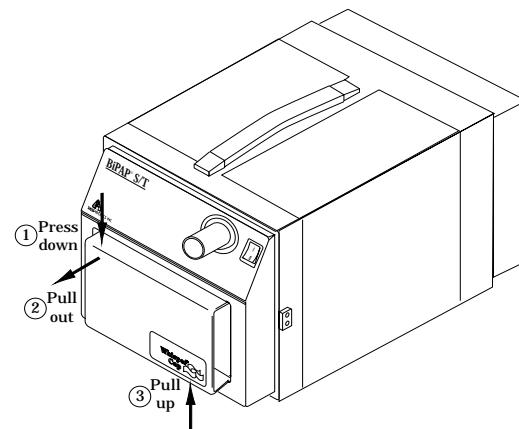
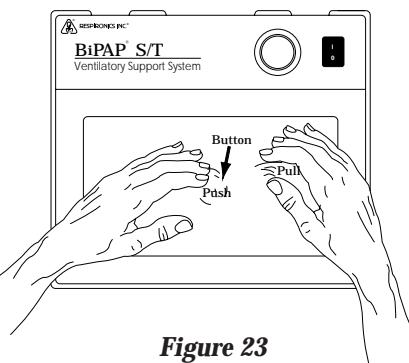

Figure 22
Figure 23
1. See Figure 22. Press down (1) and pull out (2) on the top of the Whisper Cap®. You need to press down only about $1/8$ " to allow the top lip of the Whisper Cap to clear the filter retainer.
2. Pull up (3) on the bottom of the Whisper Cap until the bottom lip clears the filter retainer.
3. Turn OFF (0) the unit and unplug the electrical cord from the wall outlet and from the back of the unit.
4. See Figure 23. Locate the button in the center of the filter holder beneath the surface of the filter. Push in on the button and pull the filter out from all four sides of the filter holder.